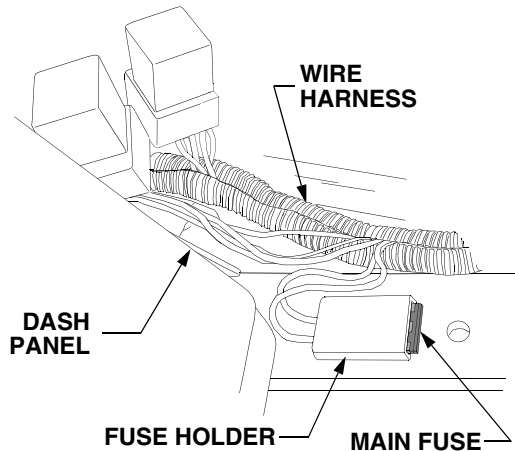

Figure 39
- Locate the main fuse under the dash panel, along the tractor's *right* frame rail. See Figure 39.